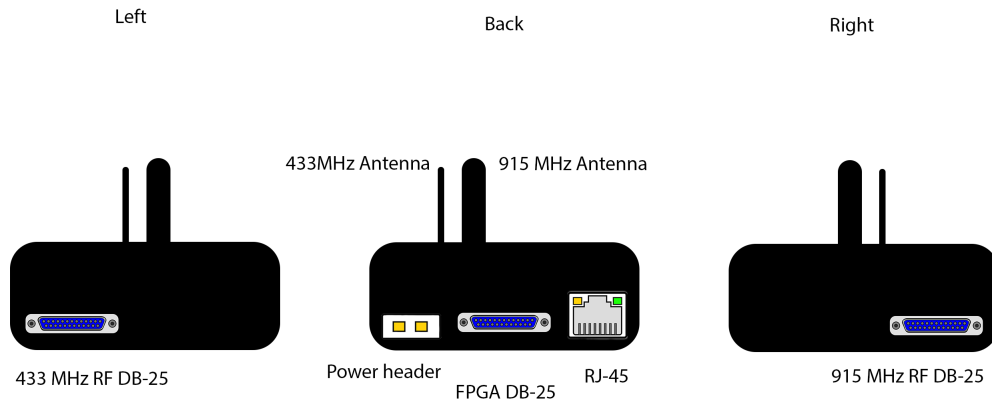

Figure 1: An overview of the RF device
1. Power the device and connect the DB-25 end of the DB-25 cable to the FPGA DB-25 connector on the device (see Figure 1) and the other end to the computer.
team suggests the following configuration in Table 1. Ports to load these configs are found in Figure 1